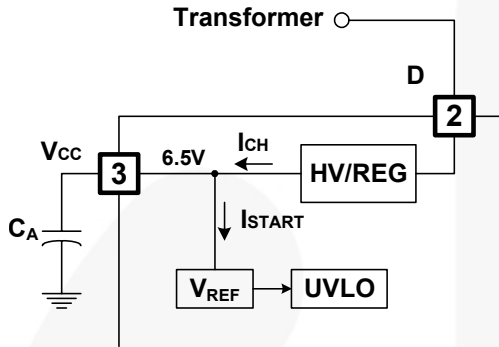
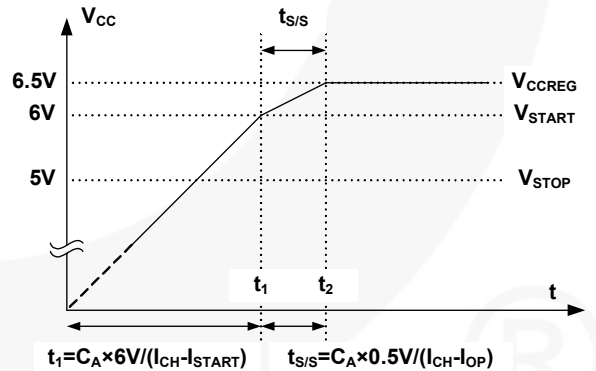

Figure 15. Startup Block
Figure 20. Soft-Start Function
**1. Startup and  $V_{CC}$  Regulation:** At startup, an internal high-voltage current source supplies the internal bias and charges the external capacitor ( $C_A$ ) connected to the  $V_{CC}$  pins, as illustrated in Figure 15. An internal high-voltage regulator (HV/REG) located between the Drain and  $V_{CC}$  pins regulates the  $V_{CC}$  to 6.5V and supplies operating current. Therefore, FSQ500N needs no auxiliary bias winding.
**4. Soft-Start:** The soft-start time is tuned by an external  $V_{CC}$  capacitor ( $C_A$ ), which increases PWM comparator non-inverting input voltage together with the senseFET current slowly after it starts. Before  $V_{CC}$  reaches  $V_{START}$ ,  $C_A$  is charged by the current  $I_{CH-ISTART}$ , where  $I_{CH}$  and  $I_{START}$  are described in Figure 15. After  $V_{CC}$  reaches  $V_{START}$ , all internal blocks are activated, so that the current consuming inside IC becomes  $I_{OP}$ . Therefore,  $C_A$  is charged by the current  $I_{CH-IOP}$ , which makes the increasing slope of  $V_{CC}$  become sluggish.  $V_{CC}$  is shifted by 6.0V negatively (it is performed in soft-start block in Figure 2), then  $V_{CC} - 6.0V$  is an input of one of the input terminals of the PWM comparator. The drain current follows  $V_{CC} - 6.0V$  instead of the  $V_{FB}^*$  because of the low-dominant feature of the PWM comparator. The soft-start time can be made long or short by selecting  $C_A$ , as described in Figure 20. During  $t_{S/S}$ ,  $I_{DELAY}$  is disabled to avoid unwanted OLP. Typically,  $t_{S/S}$  is around 4.6ms with 27 $\mu$ F of  $C_A$ .